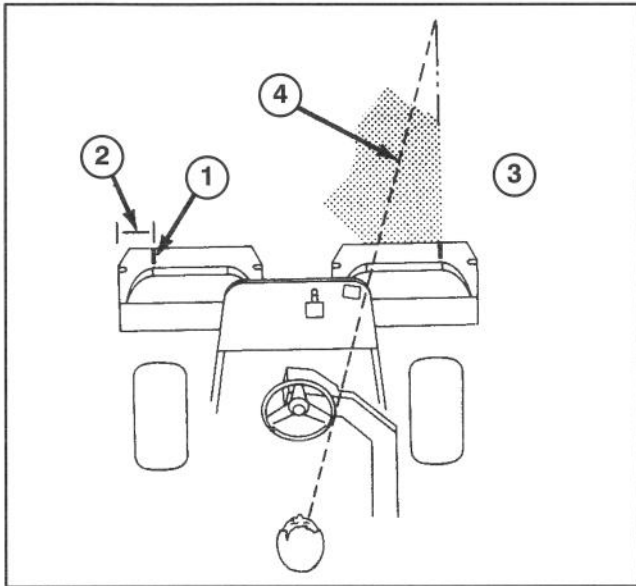

Figure 21
2. Either place a strip of white tape or paint a line onto each basket paralleling the outer edge of each basket (Fig. 21)